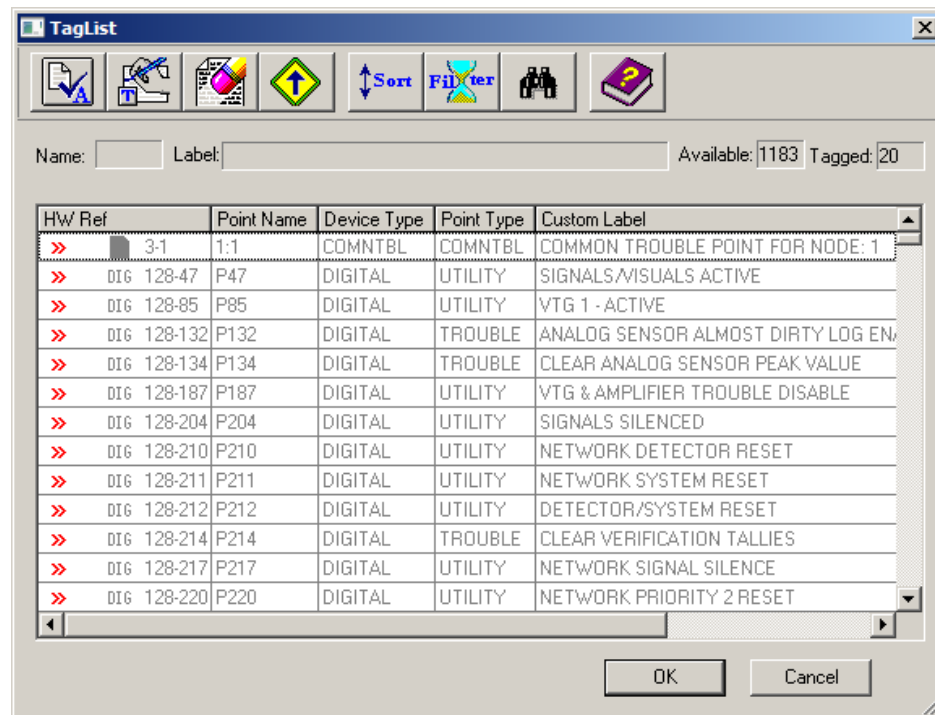

Figure 13-5. Tag List for External Points
- Click **OK**. The tag list shown in Figure 13-5 appears. This taglist contains all of the points that are currently declared public on the node selected in Step 1 above.